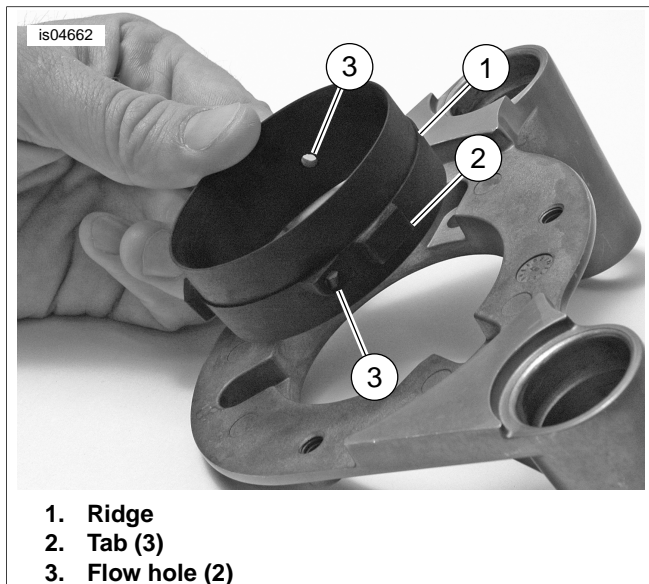
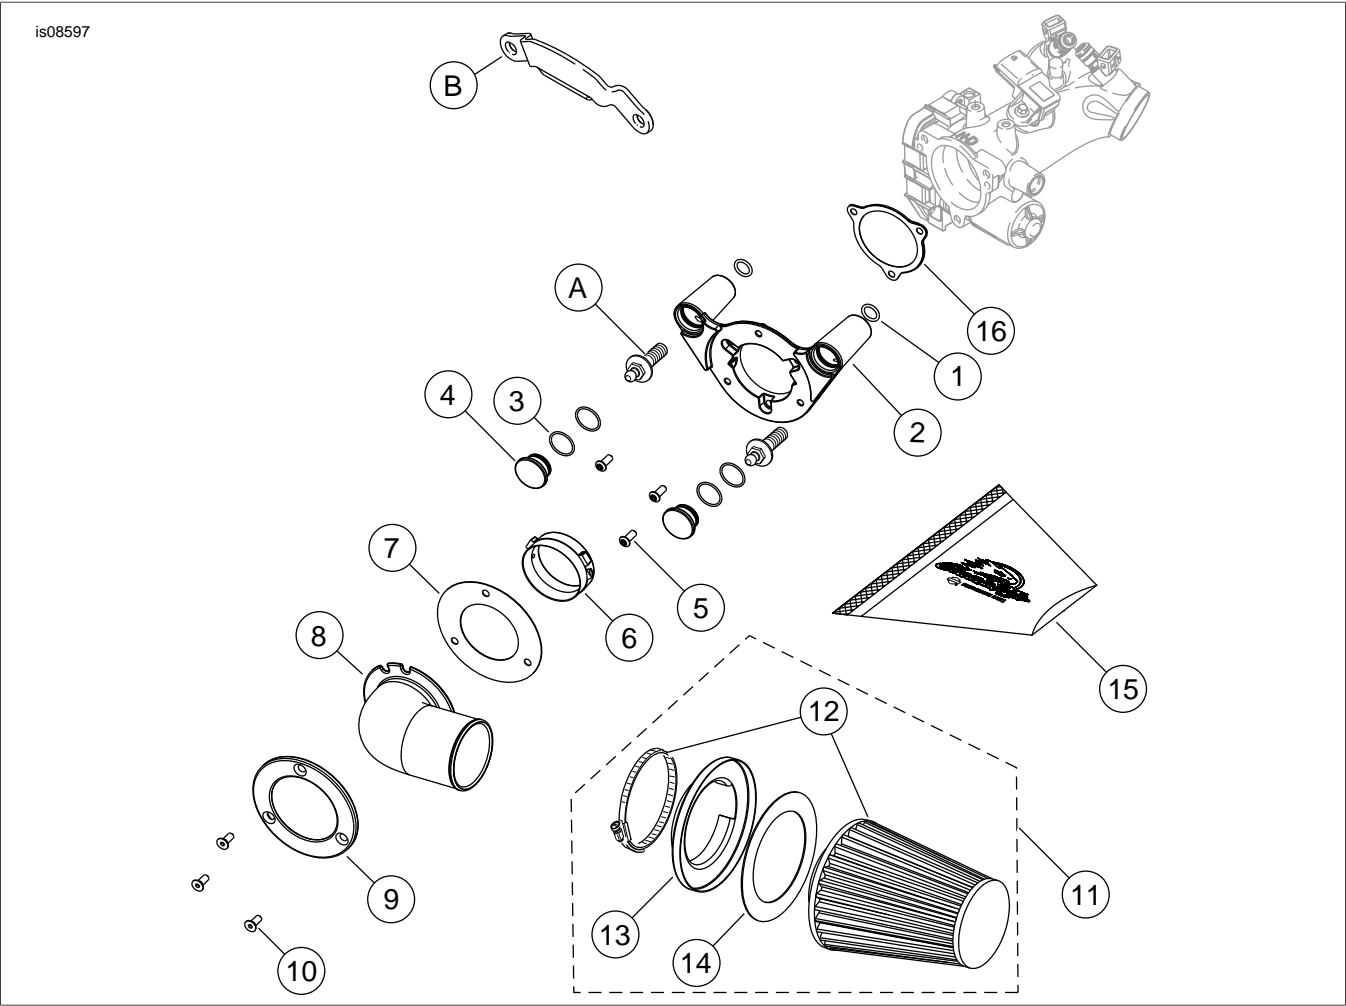

Figure 2. 50 mm Adapter
Figure 4. Service Parts: Screamin' Eagle "Heavy Breather - Elite" Performance Air Cleaner Kit
See Figure 4 and Table 1.
2. Remove the air cleaner backplate following the instructions in the service manual. Retain the two breather screws (A) removed from the backplate (see Figure 4). The remaining parts can be discarded.
3. See Figure 4. Remove and discard support induction module bracket (B).
12. **For models equipped with 50 mm induction module:** See Figure 2. The outside of the outer half of the plastic adapter (item 6 in Figure 4) is marked "This side out - 50 mm only." The inner half is indexed with three tabs (2) and two breather flow holes (3). Insert the indexed side into the backplate, aligning the tabs and flow holes with the flow holes in the backplate.